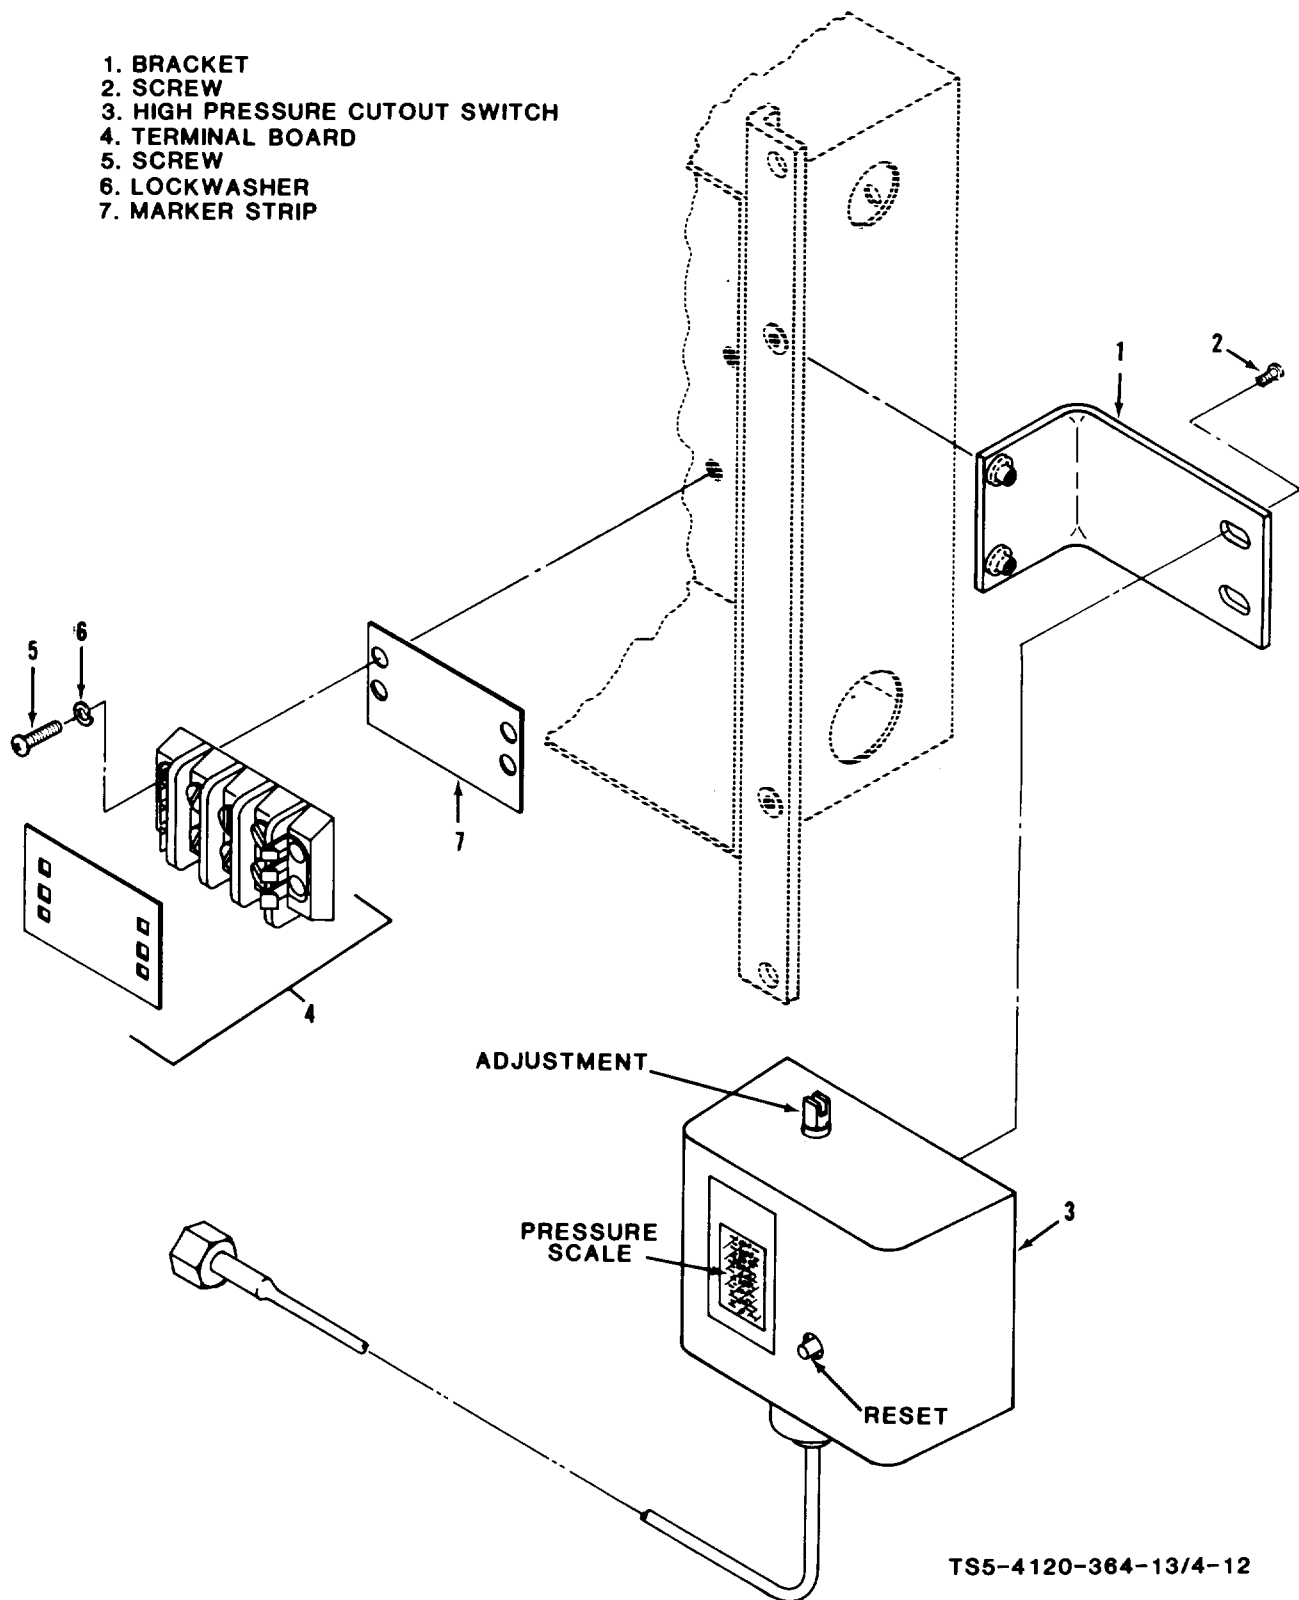

Figure 4-12. High pressure cutout switch
a. General. The high pressure cutout switch (figure 4-12) is located in the compressor section. It is preset at the factory to trip at 280 psi, and is wired into the circuit to the thermostat so that operation of all rotors is stopped if discharge pressure in the refrigerant system reaches that point. The high pressure switch cannot be repaired and if defective, it must be replaced.
(2) Backseat the compressor discharge service valve and disconnect high pressure line flare nut at compressor.
(3) Disconnect and tag electrical leads coming from the high pressure switch, then remove screws (2, figure 4-12) and high pressure cutout switch (3).